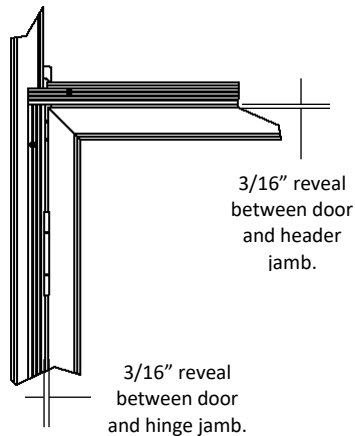

Fig. 6
3. There will be approximately 3/16" reveal between top of door and header jamb and 3/16" reveal between side of door and hinge jamb. (Fig. 6)
3. There will be approximately $\frac{3}{16}$ ” reveal between top of door and header jamb and $\frac{3}{16}$ ” reveal between side of door and hinge jamb. (Fig. 6)